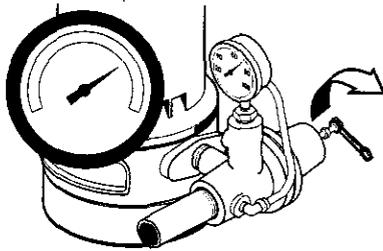
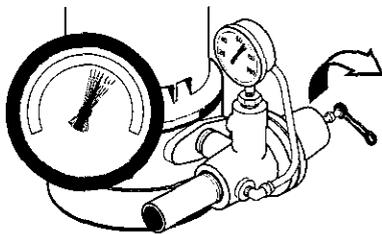
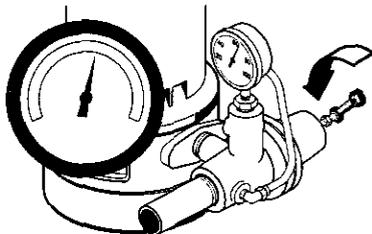

Figure 19A – Open Regulator Valve
Figure 19B – Watch for Pressure Gauge to Flutter
Figure 19C – Close Regulator Valve until Pressure Stabilizes
- Once unit has primed and pressure stabilized, slowly open (turn counterclockwise - Figure 19A, regulator valve until pressure falters (pressure gauge needle flutters; pump may become noisy - see Figure 19B). At this point, close (turn clockwise) regulator valve slightly until pressure stabilizes. This setting provides maximum flow (Figure 19C).